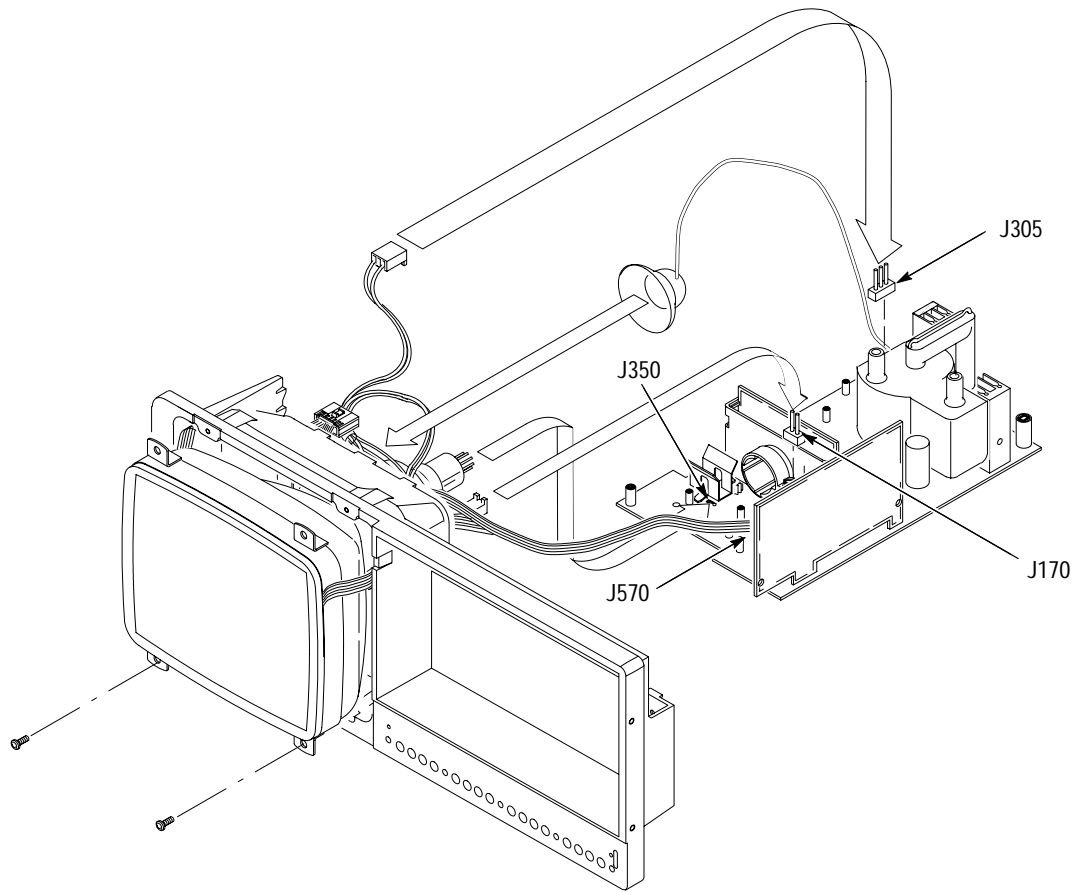

Figure 6-22: Display Assembly Removal
4. *Remove the display tube:* Take the precautions outlined in the warning above. Reference Figure 6-22 while doing the following substeps.